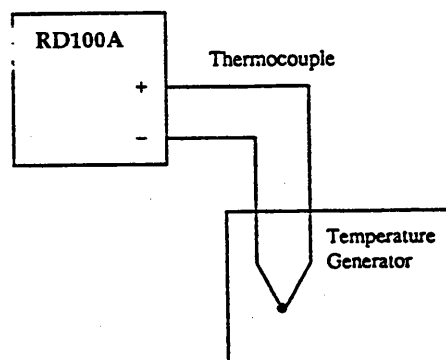

Figure A-5. Reference Junction Compensation Accuracy Test Connection
The specification for thermocouple types R, S, B, and W is  $\pm 1^\circ\text{C}$ . For thermocouple types K, J, E, T, N, L, and U it is  $\pm 0.5^\circ\text{C}$ . The tolerance for thermocouple types R, S, B, and W is  $-1^\circ\text{C}$  to  $1^\circ\text{C}$ . For thermocouple types K, J, E, T, N, L, and U, it is  $-0.5^\circ\text{C}$  to  $0.5^\circ\text{C}$ . The required equipment is a temperature generator, with a generated temperature of  $\pm 0.01^\circ\text{C}$  (TRC111), and a thermocouple that is, at most, 0.3 mm in diameter (Type T recommended). The connection is shown in Figure A-5.
1. Connect the equipment as shown in Figure A-5.